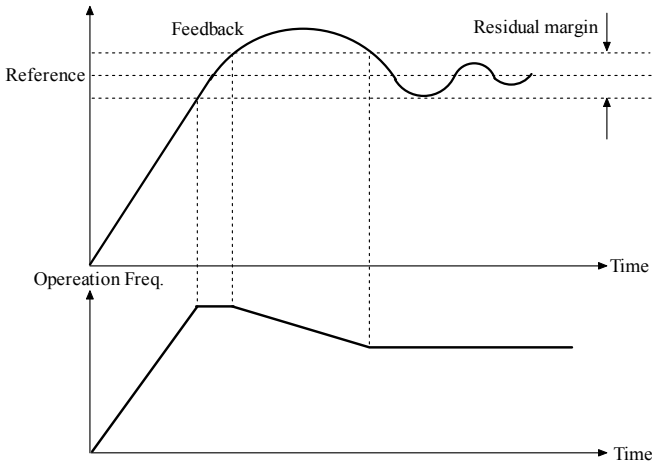

Fig. 5-7-1 Residual margin diagram
- ◆ If the difference between feed and feedback value is smaller than Error margin, PID regulation will stop and the inverter maintains the present output. As shown in Fig. 5-7-1.
- ◆ In the case of analog PID, the error margin sets P7.22 as the absolute value of physical quantity, which should match with the range. In the case of speed PID, the error margin sets P7.22 as the rotating speed. It is showed in Fig. 5-7-1: